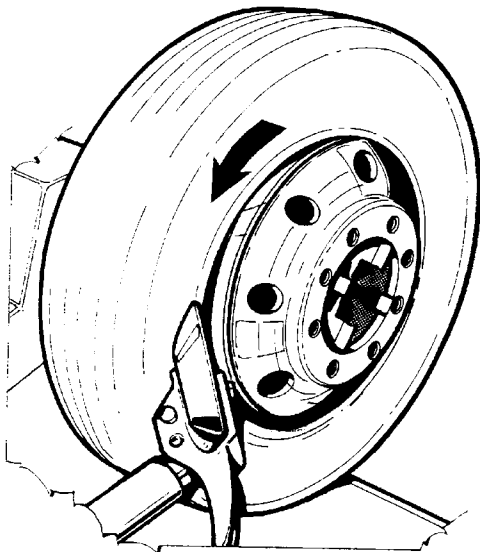
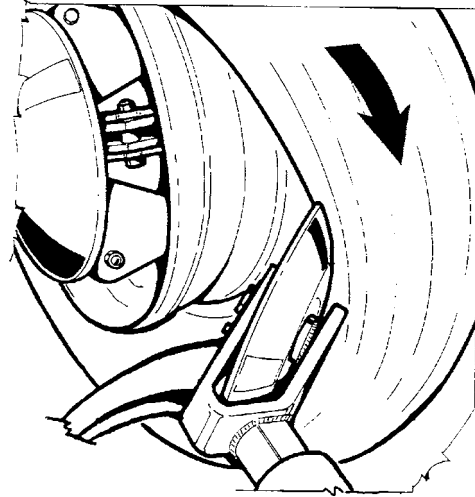

Fig.18
Fig.19
2. Position the bead loosener disc or tubeless roller (option) as shown in fig.18, fig.19.